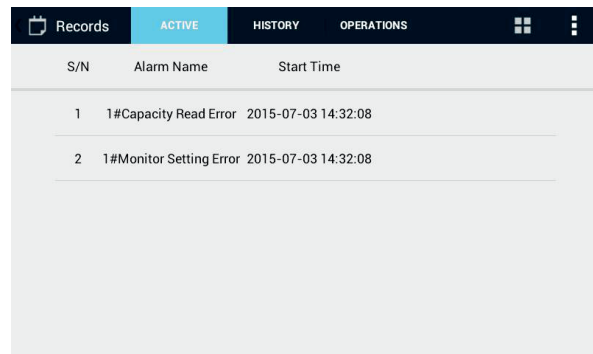

Figure 6-10 Alarm info
- ◆ Click “Records” button in the main interface to enter the interface of alarm info, as shown in Figure 6-10,6-11,6-12. User may check active alarm info, history alarm info and operations;